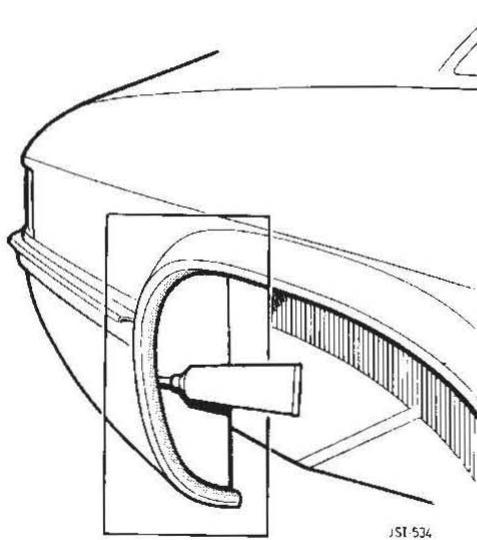

FIG 3
- c) Apply sealant along the double seam of the wheel arch flange - inner to outer panel joint (clear R.T.V. sealant) Fig 3.